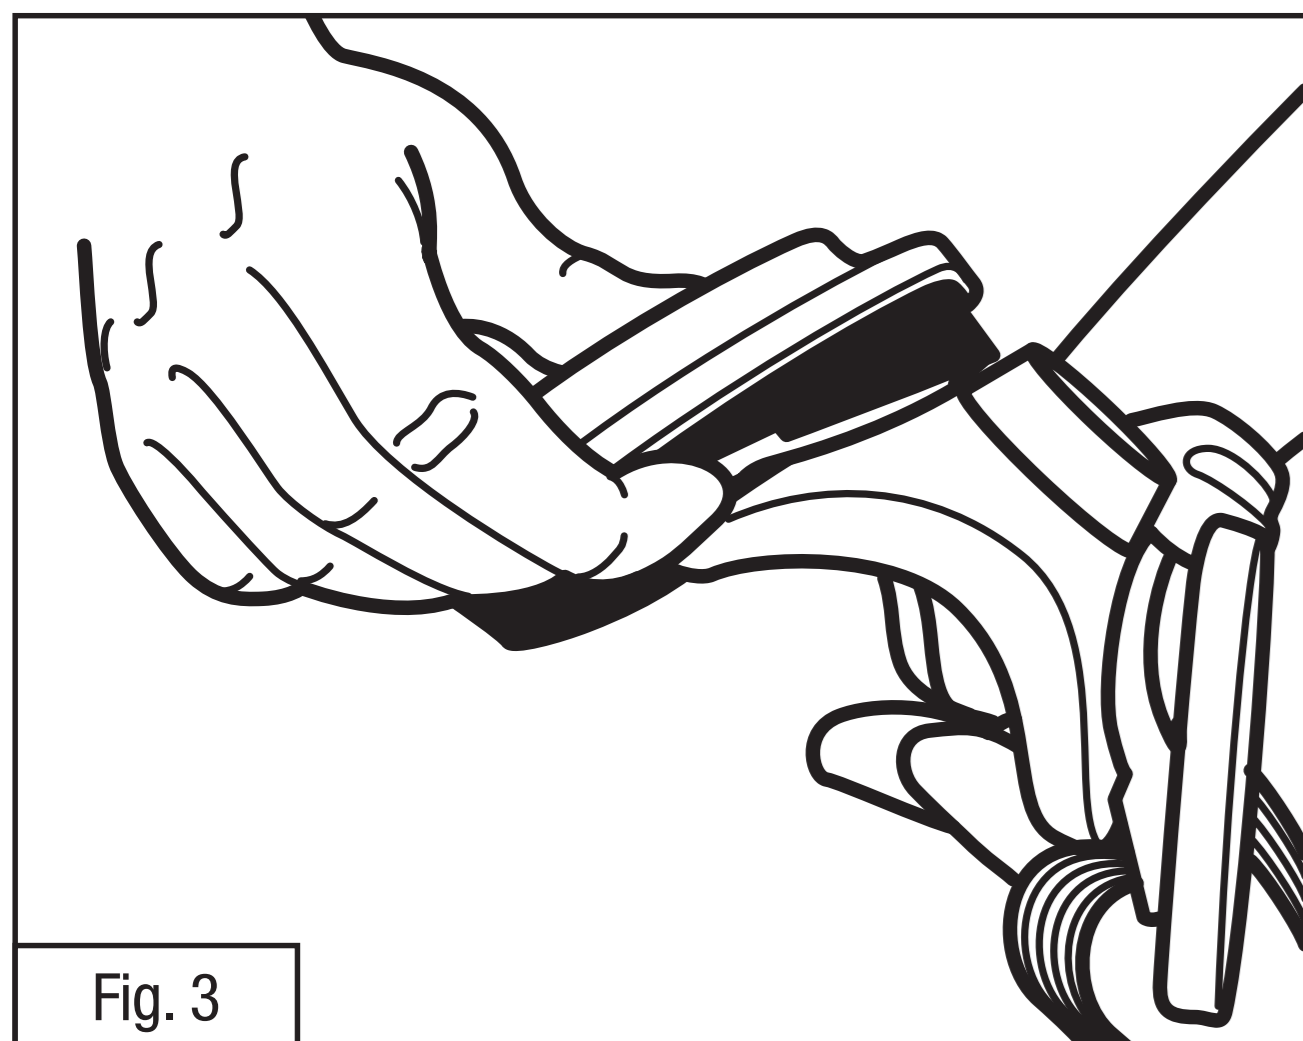

Fig. 3
3. To replace the 5P71 (07194) filter, remove the 501 (07054) filter retainer by lifting on the tab (Fig. 3).